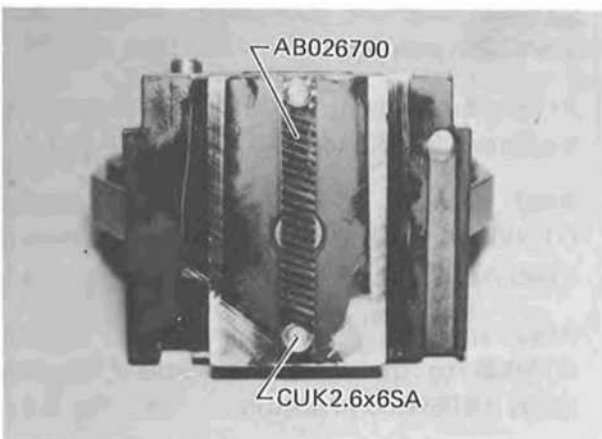

Fig. 7-6
7-2-5 Dismount Rack AB026700 by removing two Screws CUK2.6x6SA. (See Fig. 7-6.)
- 8-1-9 Assemble Rack AB026700 in position by tightening two Screws CUK2.6x6SA. (See Fig. 7-6.)